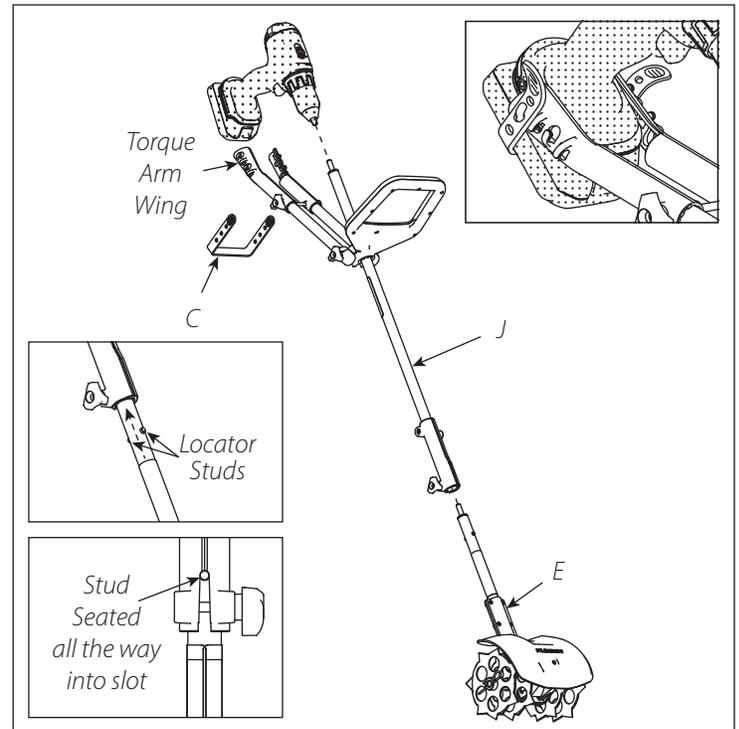
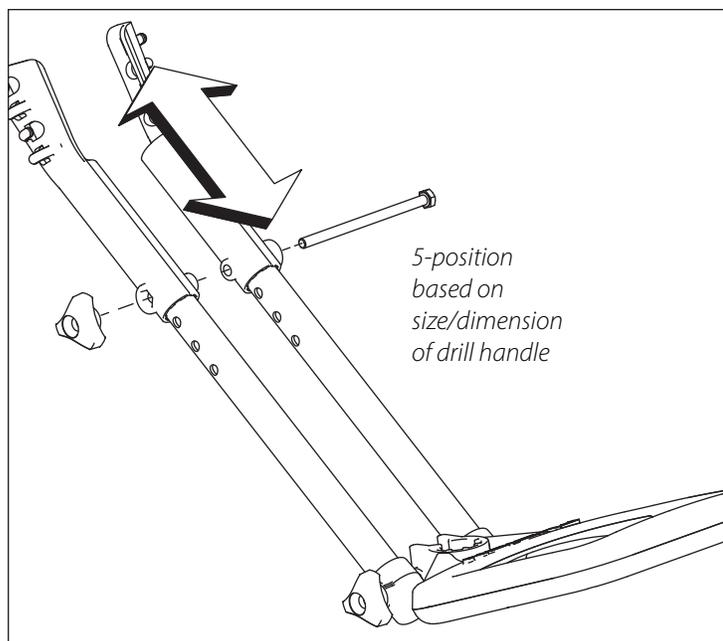

FIGURE 5
FIGURE 7
### SEE FIGURE 5
**SEE FIGURE 5**
3. Pivot both torque arms back down so that the left and right wings nest over the foot of the drill that holds the drill's battery. **SEE FIGURE 5** Depending on the drill used, the plastic wing ends of the torque arms may be extended by removing the tool's hand knob nut and bolt closest to the drill and extending the plastic ends to the appropriate bolt hole position in the left and right aluminum tubes of the torque arms. **SEE FIGURE 7**
4. Secure the wing ends of the torque arm with the rubber strap (C) hooked onto the best available hook of one torque arm wing, stretching the strap around the bottom of the battery and hooking it onto the best available hook on the other side. Multiple holes are available on the rubber strap to ensure a secure stretch fit around most any available battery size. **SEE FIGURE 5**
**SEE FIGURE 7**